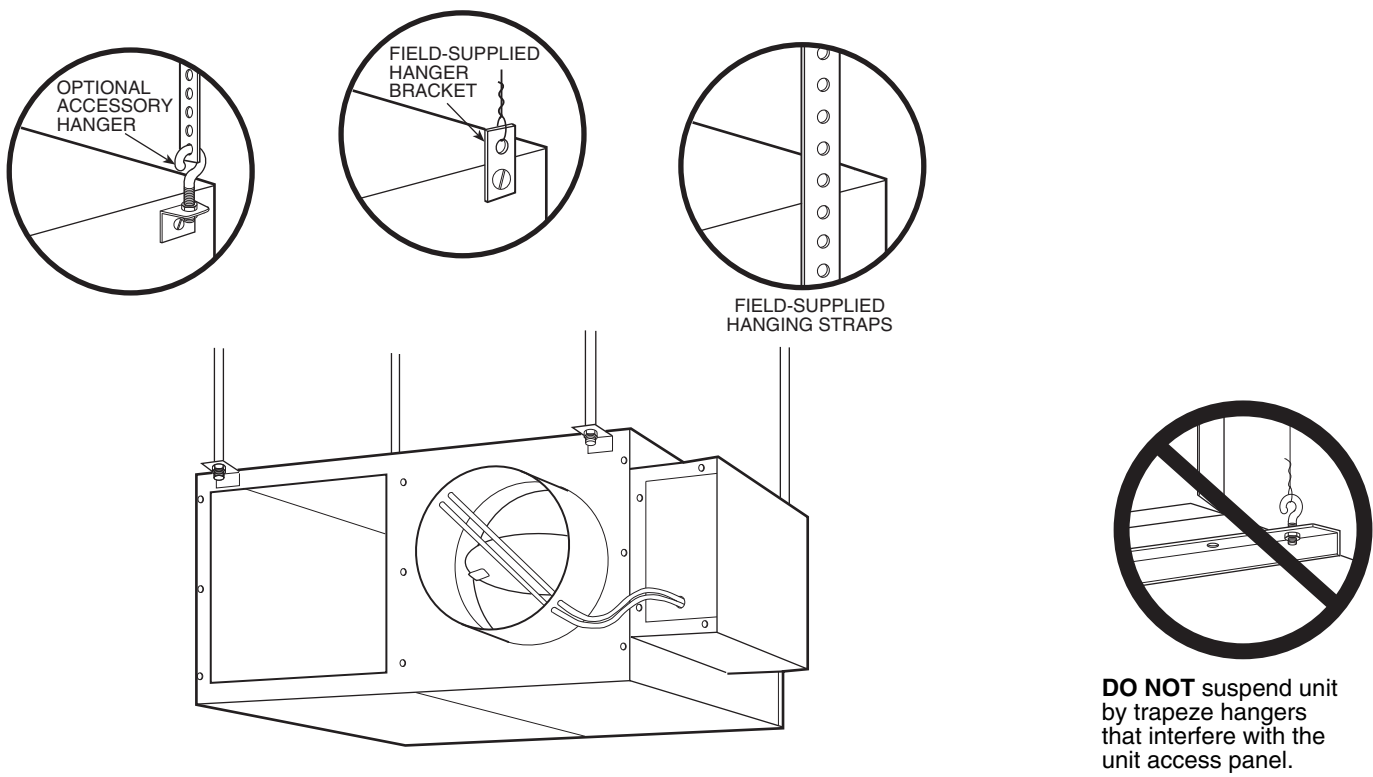
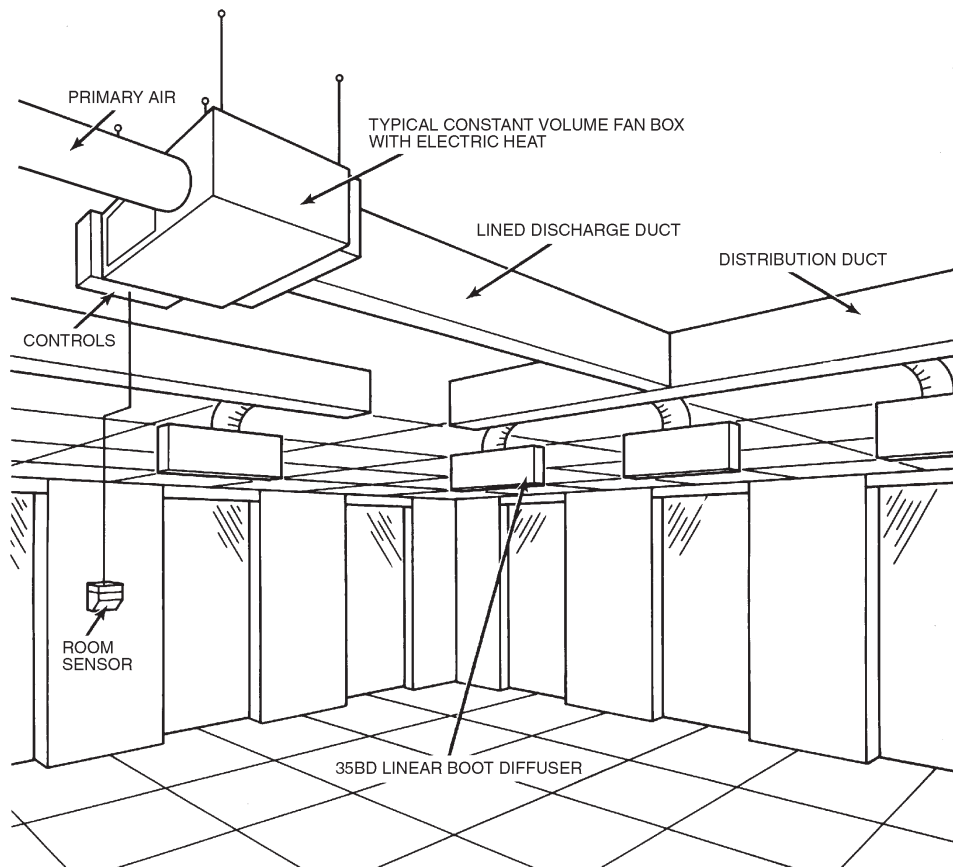

Fig. 6 — Typical Unit Suspension Methods (45K Shown)
Fig. 7 — Typical Perimeter Installation — Constant Volume Fan-Powered Box
1. Install field-supplied eye bolts, strap hangers or bolt rod supports as desired. Figure 6 illustrates possible unit suspension methods. A typical installation is shown in Fig. 7.